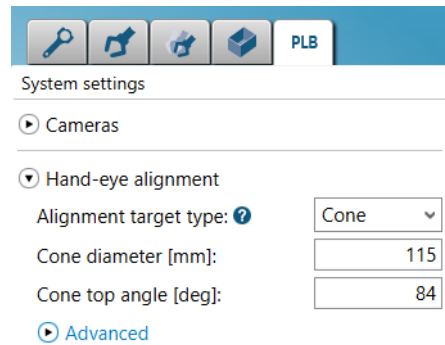

Figure 48: Specifying the target type and specifications.
4. Go to the settings for **Hand-eye alignment** (see figure 48, page 60).